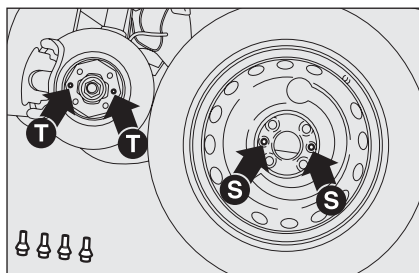

fig. 7
- ☐ install the space-saver spare wheel matching the holes **S**-fig. 7 with the corresponding pins **T**;
- ☐ Fit the normal wheel matching the holes **S**-fig. 7 with the corresponding pins **T**;